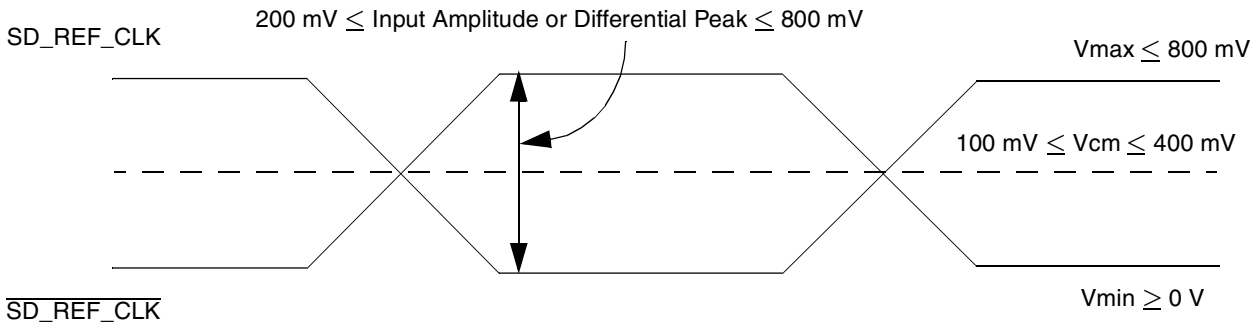

Figure 41. Differential Reference Clock Input DC Requirements (External DC-Coupled)
- For **external DC-coupled** connection, as described in section 13.2.1, the maximum average current requirements sets the requirement for average voltage (common mode voltage) to be between 100 mV and 400 mV. Figure 41 shows the SerDes reference clock input requirement for DC-coupled connection scheme.